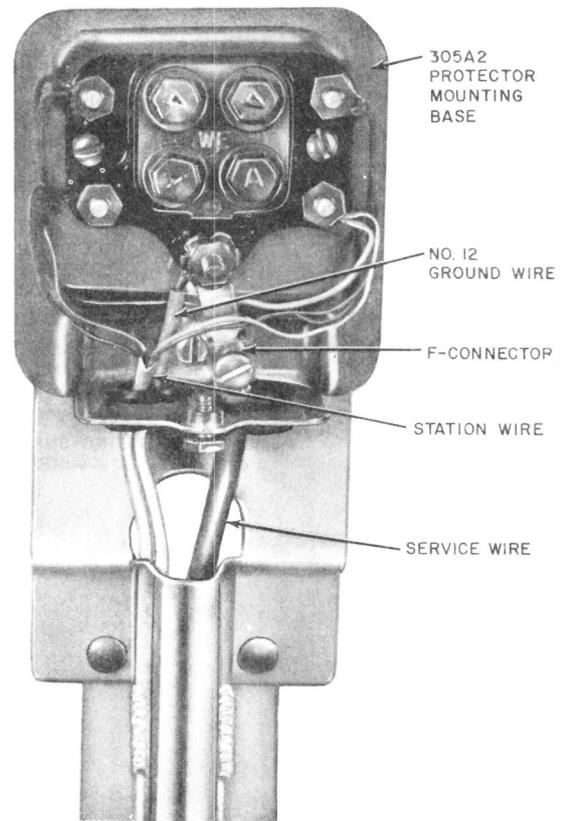

**Fig. 19—123A1A Protector Installed in 305A2 Protector Mounting**
**3.24** The 305A2 protector mounting consists of a metal base and a removable metal cover. The base has two slotted mounting holes and four tapped holes, two vertical and two horizontal, for installing 123-type and 128A1A-2 protectors. Two screws are furnished with the mounting. The 305A2 protector mounting can be mounted on any flat surface (Fig. 19) or on a PMP (Fig. 20).